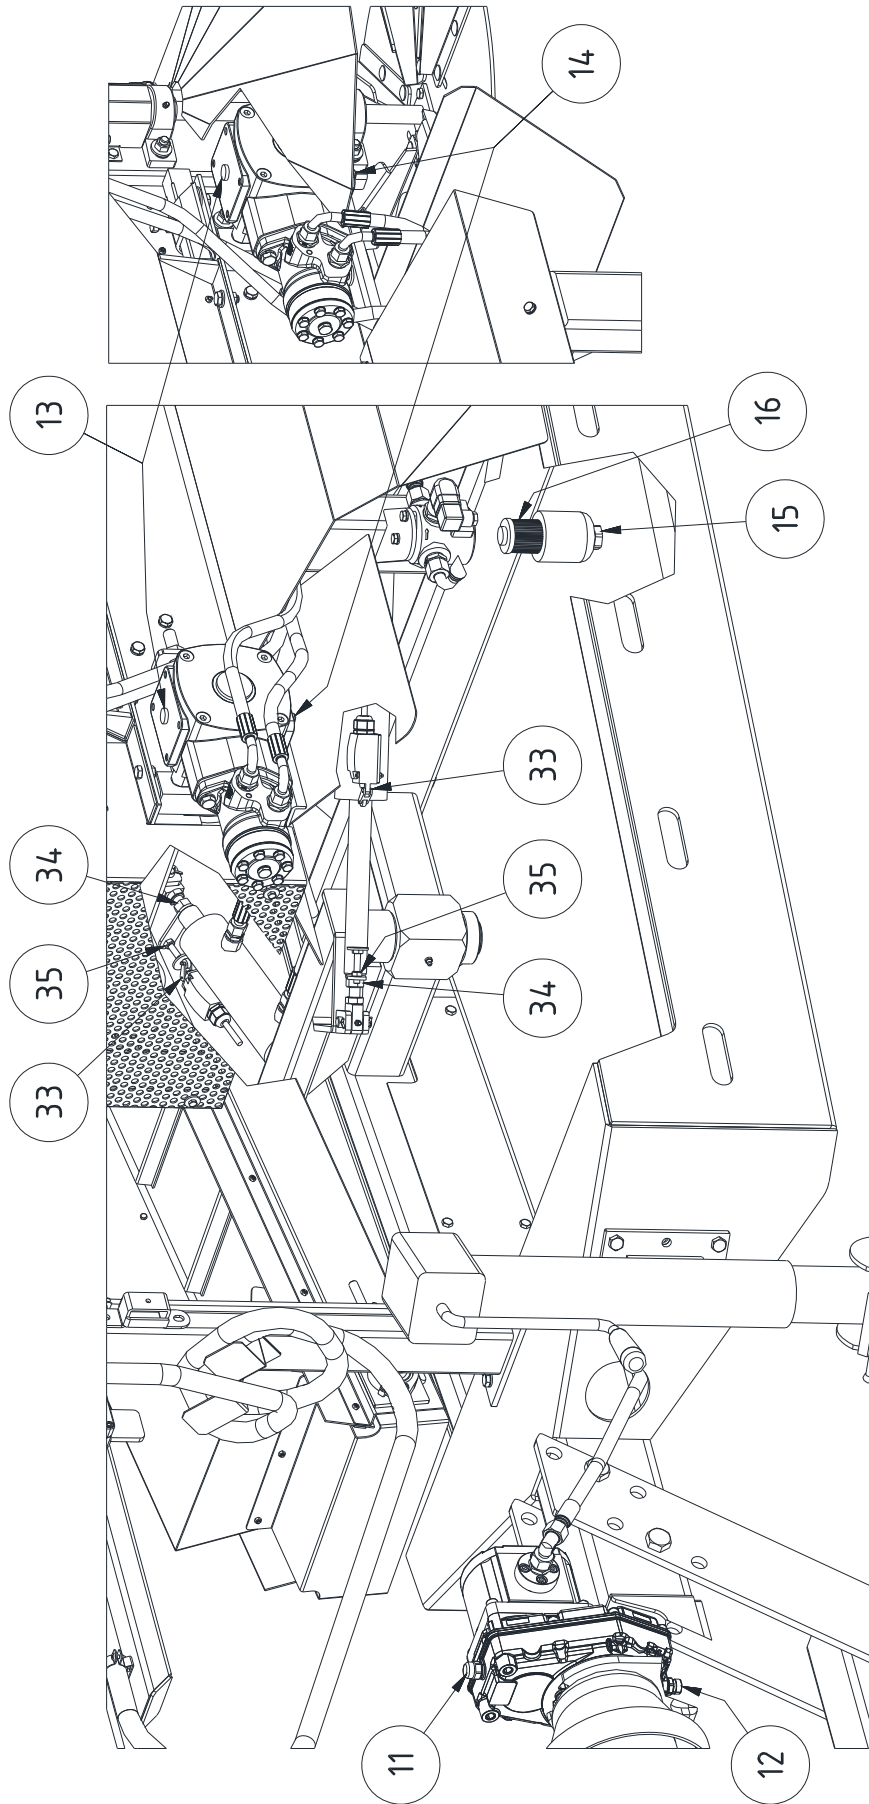

Fig.8: Change gearbox / filter change / cylinder end stop oil
(See page 21, Fig. 8)
Position switch (33) is not activated	Check the cylinder stop end of the position switch (33) (See page 21, Fig. 8)